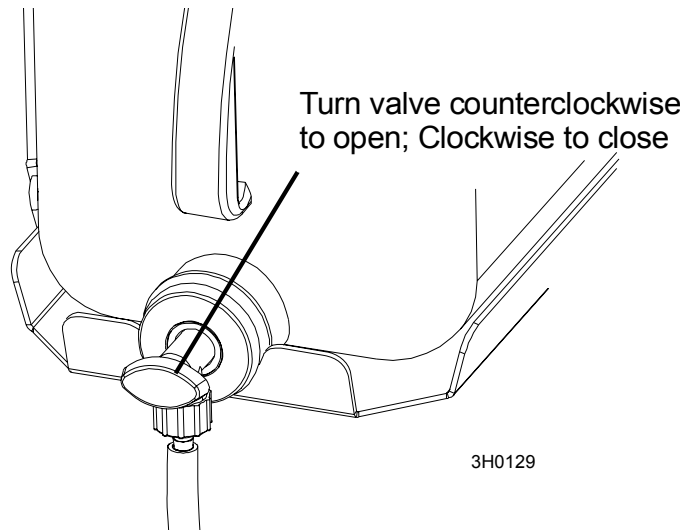

FIG. 2-16
**See Figure 2-16.** The Water Lube System keeps the blade clean. Water flows from a 5-gallon (18.9 liter) bottle through a hose to the blade guide where the blade enters the log. A valve in the